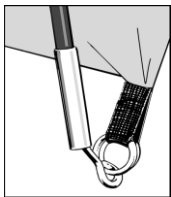

Figure 1
5. Locate one end of each diagonal pole onto pin system at flysheet corners (see figure 1).